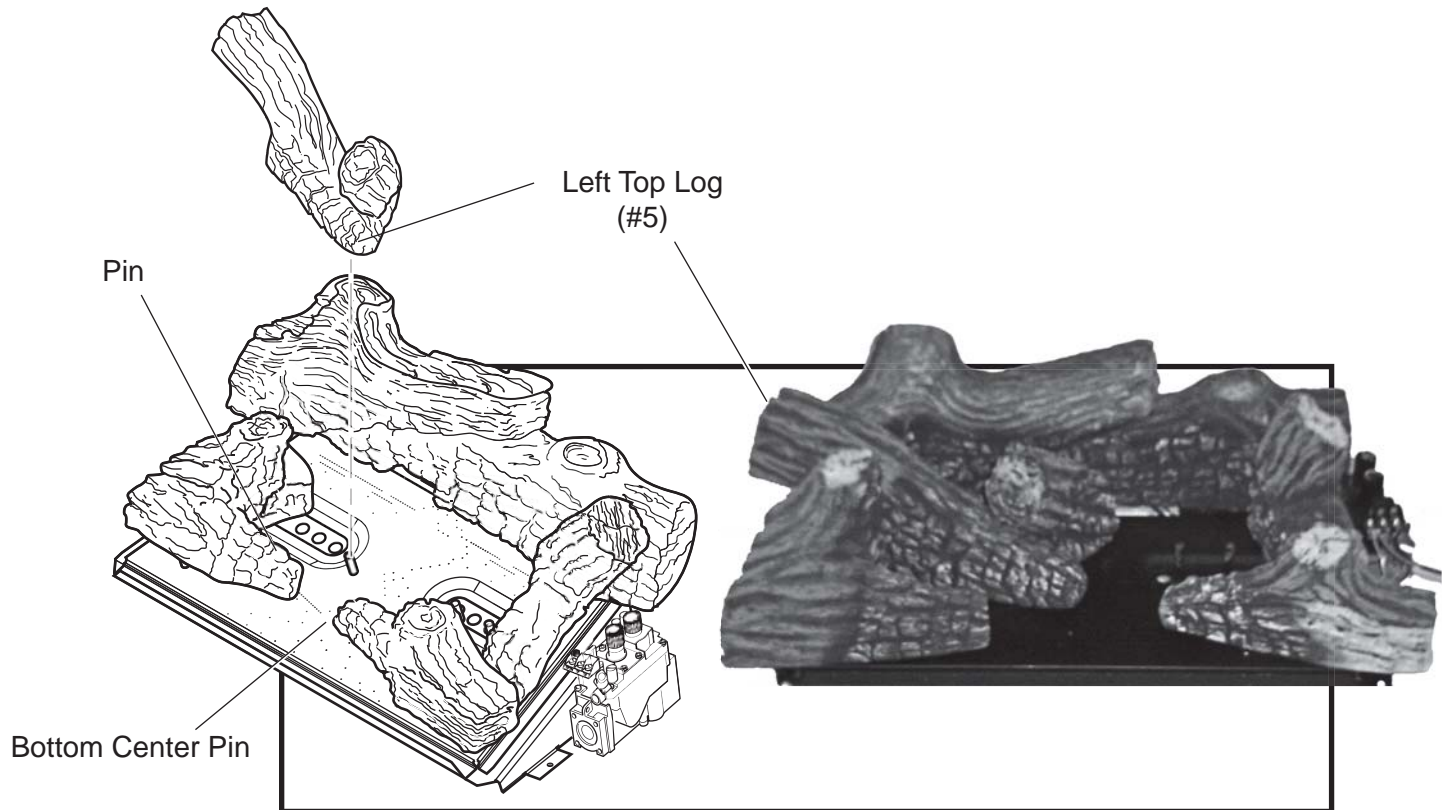

Figure 23 - Installing Left Top Log (#5)
5. Place right end of left top log (#5) on bottom center grate pin. Place left end of left top log (#5) on top of the left base log. *See Figure 23.*